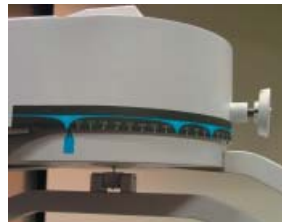

Figure 6-18. Halo at 90° Rotation
Step 8. Unlock the rotation pin and rotate the halo to 90 degrees right rotation. Lock the rotation pin back into place (Figure 6-18).